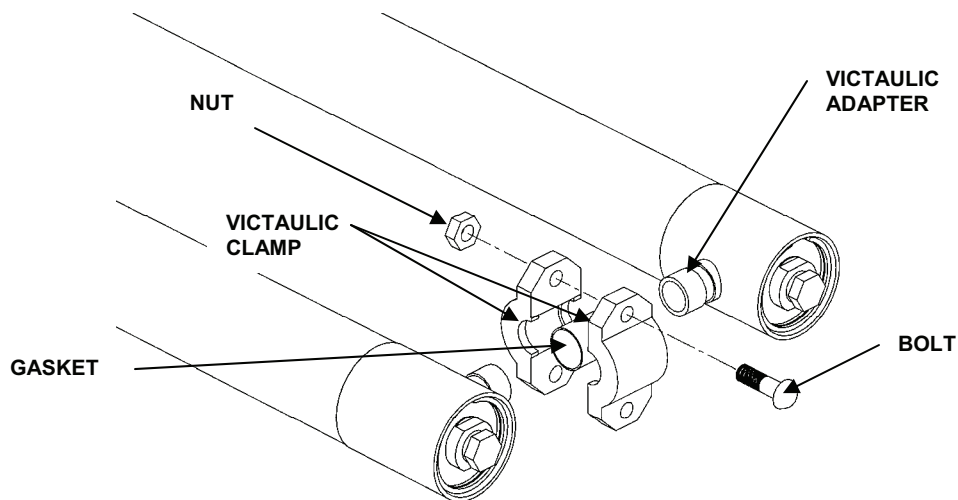

Figure 1. Pressure Vessel Clamp Arrangement.
3. Remove two (2) nuts and bolts on Victaulic clamp. See Figure 1.